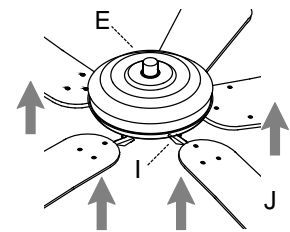

Fig. 4
4. Place remaining lock washers (N) and insert motor screws (K). Repeat with remaining blade arms (I). Tighten all motor screws (K) securely. [Fig. 4]